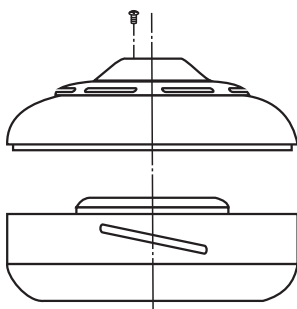
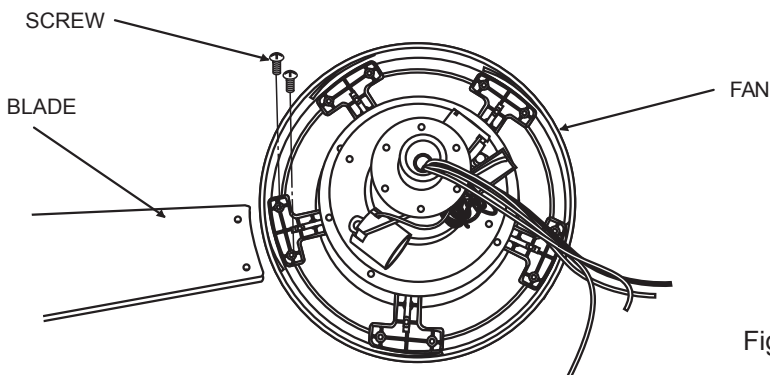

Fig 2-1
Fig 2-2
3. Withdraw six (6) screws from the upper housing and remove the upper housing from the fan assembly. Assemble the blades (one at a time) to the fan mounting disc, making sure the blades are correctly oriented. Fasten each blade with three (3) screws and fibre washers as supplied and tighten. (See fig 2-1, fig 2-2)